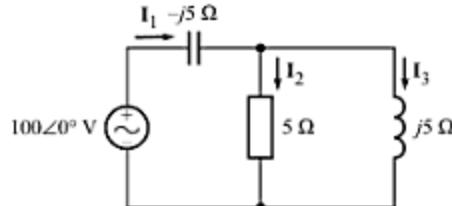

Fig. C-41
**C-15.** In the circuit given in Fig. C-41, find  $I_1$ ,  $I_2$ , and  $I_3$ .